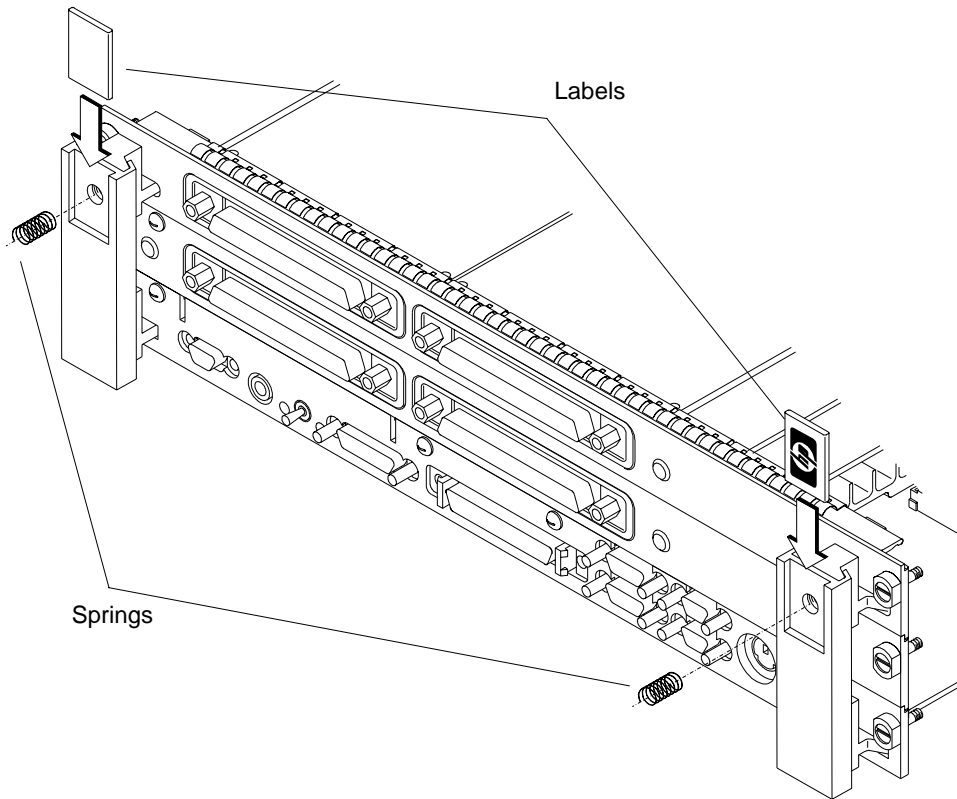

Figure 13 **Installing the Springs and Labels**
- c Thread the springs included in the kit into the ejector handles on the PMC expansion board, and with the springs compressed, slide the labels from the board computer into the sleeves, as shown in Figure 13.